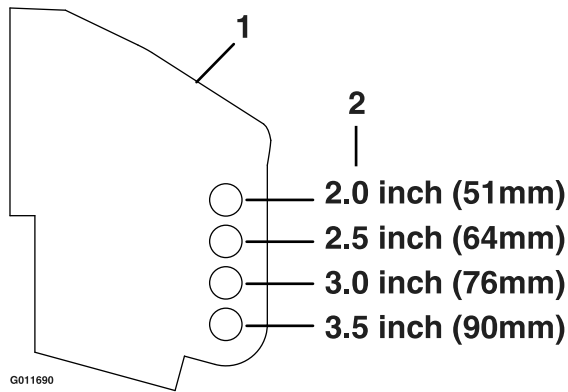

Figure 16
6. Place the rollers in one of the positions shown (Figure 16). Rollers will maintain 3/4 inch (19 mm) clearance to the ground to minimize gouging and roller wear or damage.